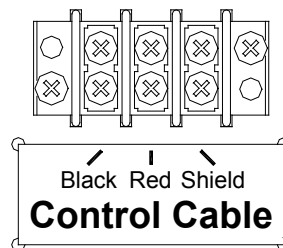

Figure 8 Control Cable Wiring Diagram
3. Connect the control cable to the **Control Cable** terminal block on the chassis according to Figure 8.